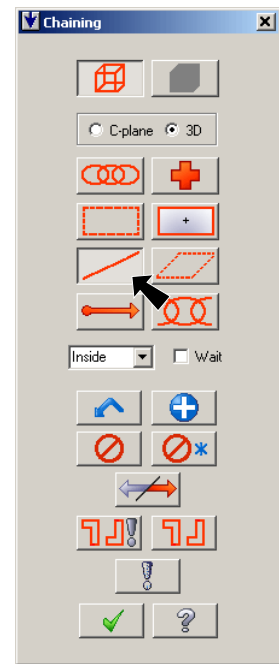

Fig. 15
Step 1. Click Single  in Chaining dialog box, **Fig. 15**.